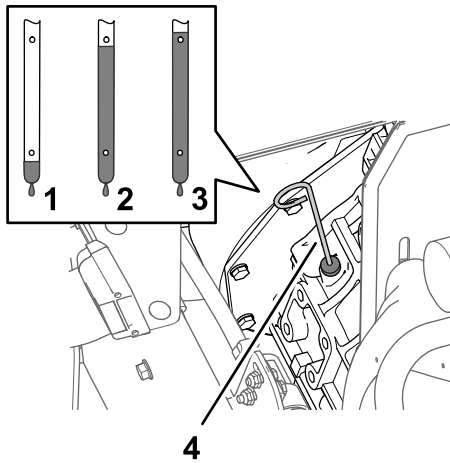

Figure 74
6. Remove the dipstick and check the oil level in the engine (Figure 74).
7. Slowly add additional specified oil to bring the oil level to the Full mark on the dipstick (Figure 74).